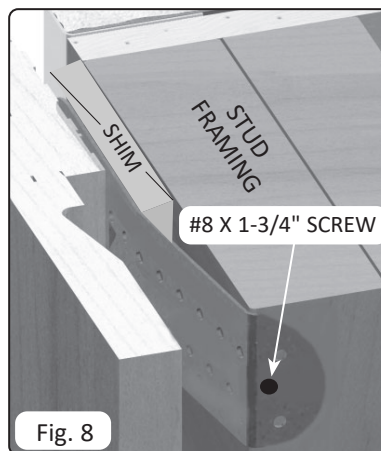

Fig. 8
- Put a shim between the frame and the rough opening above each clip to prevent frame from bowing. Start at an upper corner inside the unit. Bend the clip around the rough opening (Fig. 8) or mount it flat (Fig. 9). Fasten the clip with either one #8 x 1-3/4" screw or two 8d nails at an angle, or use two #8 x 1-1/4" screws for face-mounted clips.